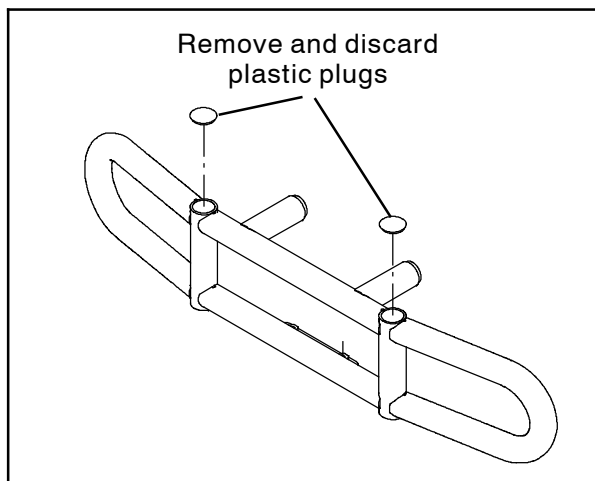

FIG. 7
2. If necessary, remove the plastic plugs from the front bumper assembly. Discard the plastic plugs. (Fig. 7)